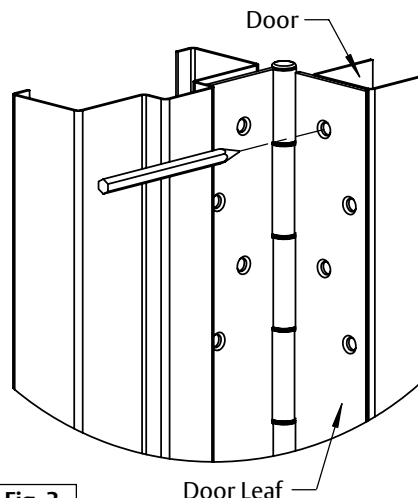

Fig. 3
- B. Mark and center punch each hole on door with hinge held firmly in place (Fig 3). Remove hinge from door and prepare to drill door.